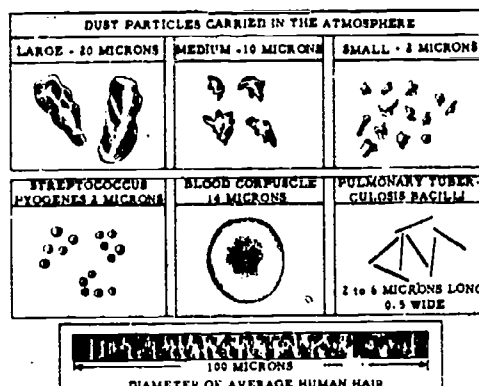

Fig 1-7. Atmospheric dust particles.
b. Foreign materials. The air that is used for air conditioning or ventilation contains many impurities ranging from carbon (from incomplete combustion), dust (from the ground), to rubber particles from tires, plant pollen, and lint from clothing. The size, quantity, and type of dust particles picked up by a system vary over a wide range. The atmosphere may include many particles of dust smaller than 5 microns (1 micron is approximately 0.001 millimeter or about 0.0004 in.). However, many of the dust particles are larger than 800 microns, or about 1/32 in. Figure 1-7 shows a comparison scale of dust particles in microns.